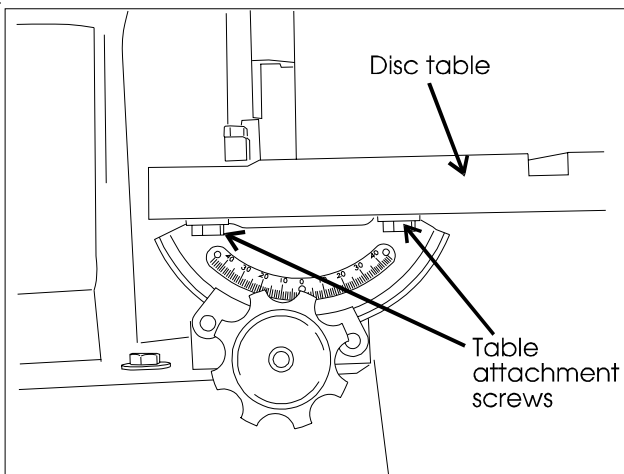

Figure 17: Table attachment screws -- loosen to adjust miter groove parallelism.
5. Adjust the table by loosening the four attachment screws under the table, then move the table until the distance between the miter slot and the disc is equal on both sides (See Figure 17).